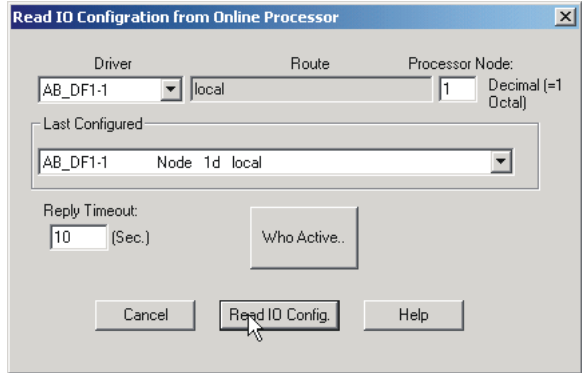
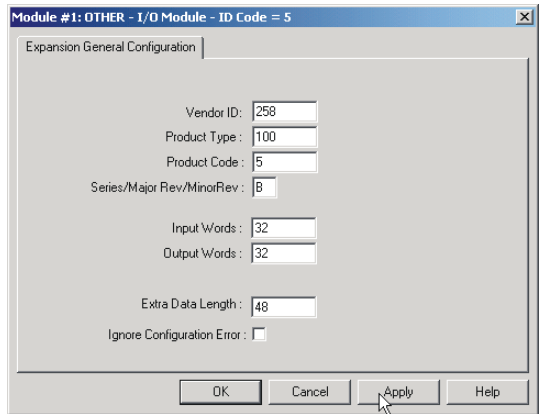

FIG. 4-4 READ I/O CONFIGURATION FROM ONLINE PROCESSOR DIALOG BOX
FIG. 4-5 CONNECTION/CONFIGURATION - 48
(See Fig. 4-4) The “Read IO Configuration from Online Processor” dialog box appears. (See Fig. 4-5)
- Step 4. RSLogix 500 automatically reads the I/O information and enters them into the configuration text fields. (See Fig. 4-4)
- Step 6. For Firmware REV B you need to double click on the module which opens the Connection Parameters dialog box. Change the Extra Data Length from a 0 to 48. (See Fig. 4-5)